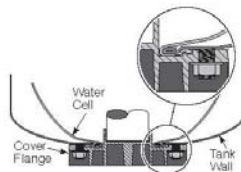

Figure 5 – Proper installation and seating
11. Clean sealing surface and groove of cover flange; place on tank (see Figure 5).